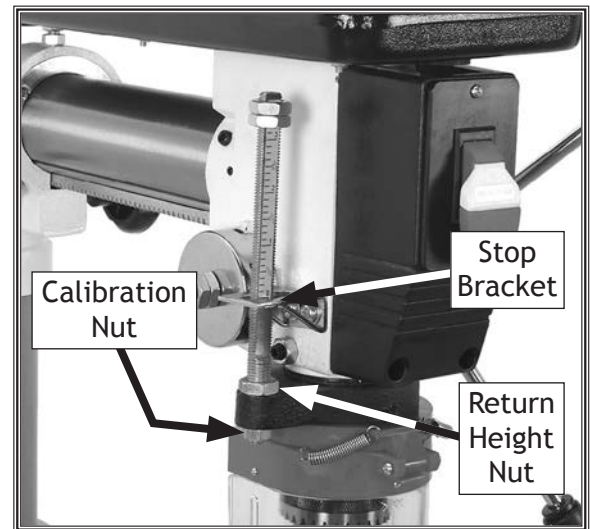

Figure 41. Depth-stop components.
1. Loosen the return height nut and calibration nut shown in **Figure 41**.